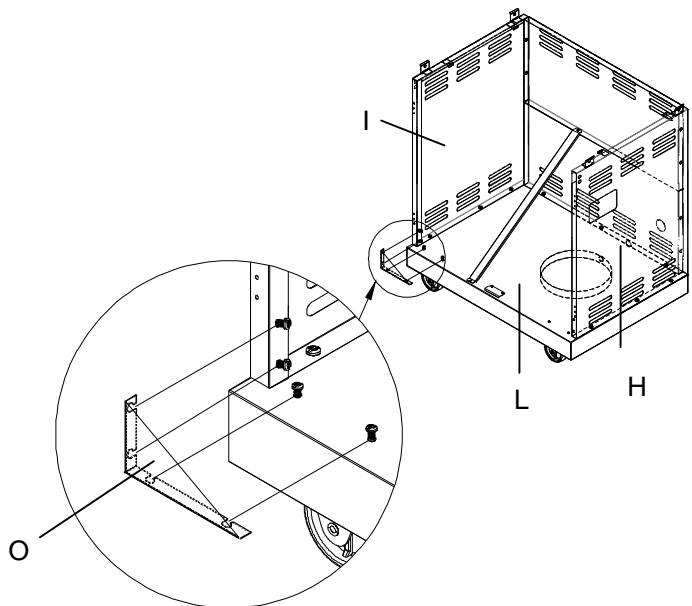

Fig.6
- Loosen but do not remove four 5/32-in. x 10-mm truss head screws (BB) mount the Left Side Panel (I) and Bottom Panel (L), two screws on cart Right Side Panel (H) and two on the Bottom Panel (L). Align the holes of the triangle bracket with screws on Left Side Panel (I) and Bottom Panel (L). Then tighten the screws as shown in Fig. 6.
- Repeat the steps a) for attaching the triangle bracket to the Right Panel (H) and bottom Panel (L)